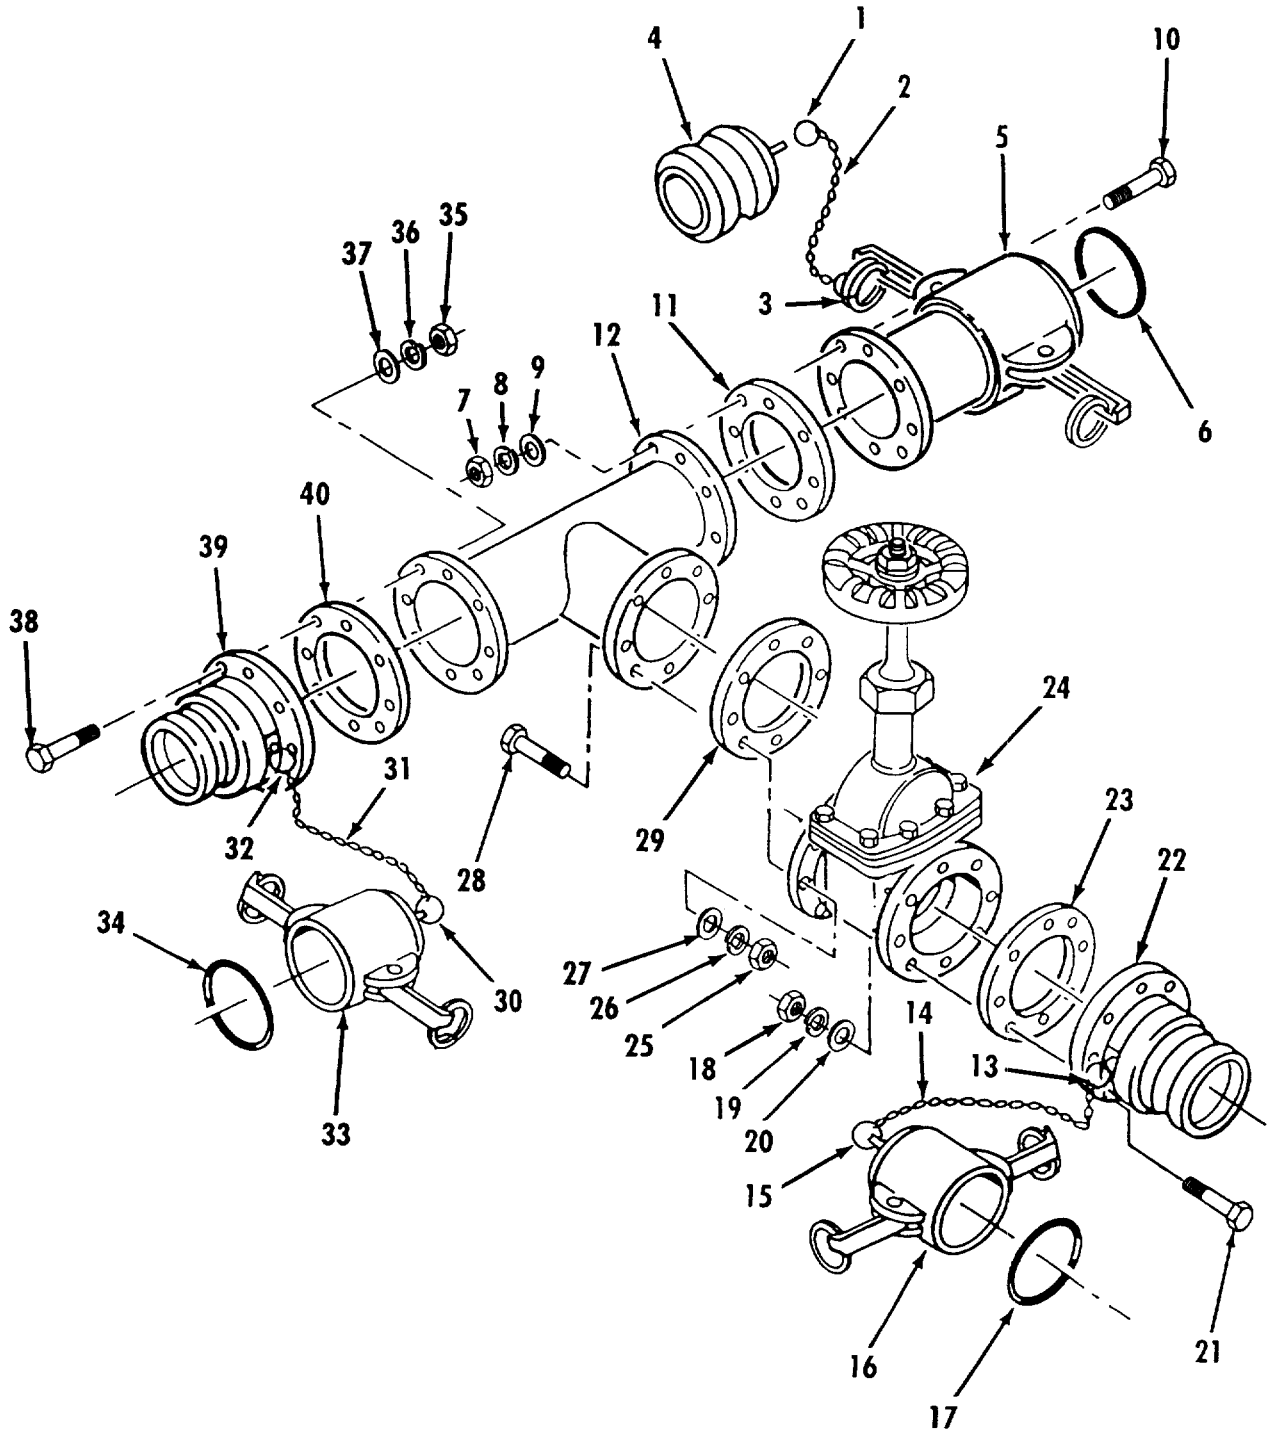

Figure 4-5. Manifold (4-Inch/One Valve) Repair.
a. Disassembly. Refer to figure 4-5.
- (1) Disconnect split ring (1), chain (2) and split ring (3) from dust plug (4).
- (2) Remove dust plug (4) from female coupling half (5).
- (3) Remove gasket (6) from female coupling half (5).
- (4) Remove nuts (7), lockwashers (8), flat washers (9) and cap screws (10).
- (5) Separate female coupling half (5) and flange gasket (11) from tee (12).
- (6) Disconnect split ring (13), chain (14) and split ring (15) from dust cap (16).
- (7) Remove dust cap (16) and remove gasket (17).
- (8) Remove nuts (18), lockwashers (19), flat washers (20) and cap screws (21).
- (9) Separate male coupling half (22) and flange gasket (23) from gate valve (24).
- (10) Remove nuts (25), lockwashers (26), flat washers (27) and cap screws (28).
- (1) Refer to para. 4-17 to repair gate valve.
- (2) Replace defective components. Do not reuse sealing components.
d. Assembly. Refer to figure 4-5.**CAUTIONS**
- (1) Position flange gasket (40) and male coupling half (39) on tee (12).
- (2) Install cap screws (38), flat washers (37), lockwashers (36) and nuts (35). **Tighten nuts** evenly in a cross pattern.
- (3) Install gasket (34) in dust cap (33) and connect to male coupling half (39).